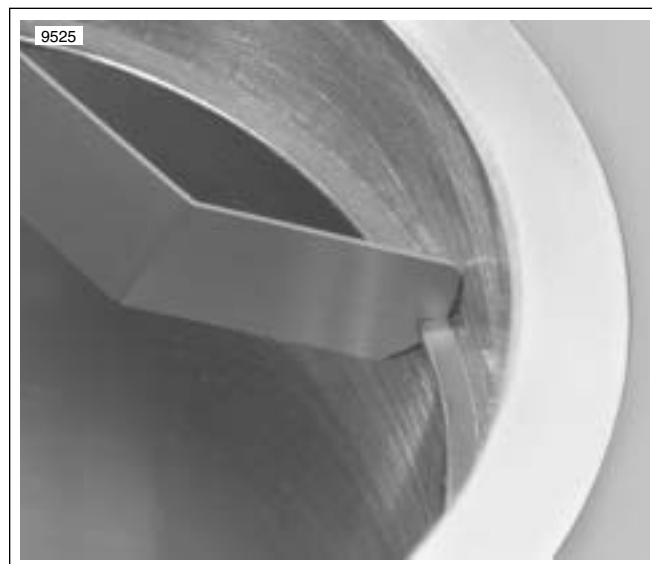

Figure 3-223. Ring End Gap
32. See Figure 3-223. Check ring end gap by placing ring in cylinder and measure gap using feeler gauges. See specifications for serviceability.